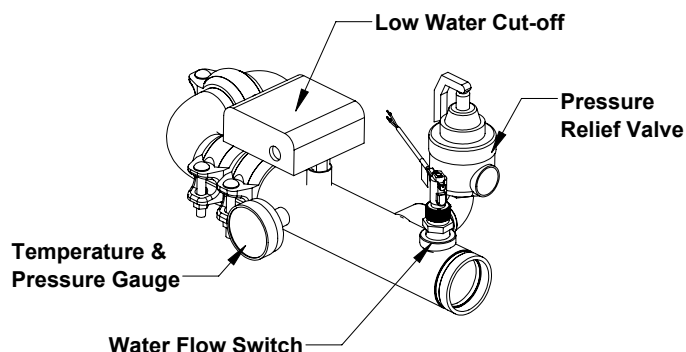

Figure 12: Factory Supplied Water Manifold
1. A pressure relief valve is included with every PFC boiler. If the Relief valve is shipped loose, install it to the outlet manifold as shown in Figure 12.